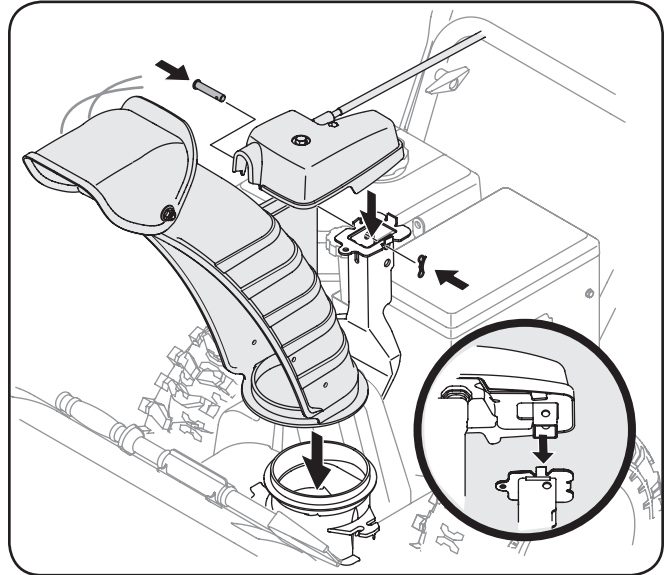

Figure 3-6
3. Place chute onto chute base and ensure chute control rod is positioned under the handle panel. Secure chute control assembly to chute support bracket with clevis pin and bow-tie cotter pin removed in step 1. See Figure 3-6.